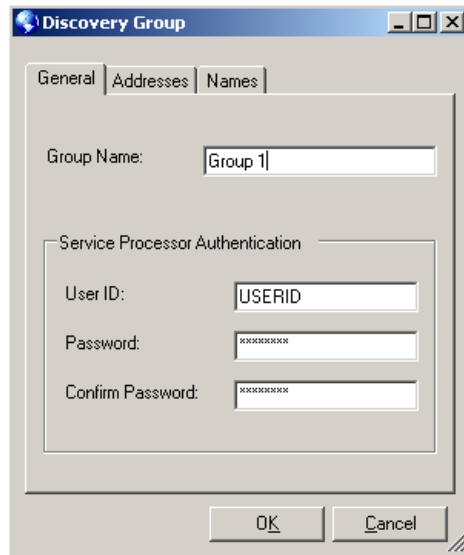

Figure 2-46 Enter a Group Name, User ID, and Password for the service processor
7. Next we need to add the service processor details to the Deployment Database. Click the  shown above to open the Discovery Group window shown in Figure 2-46 on page 72.